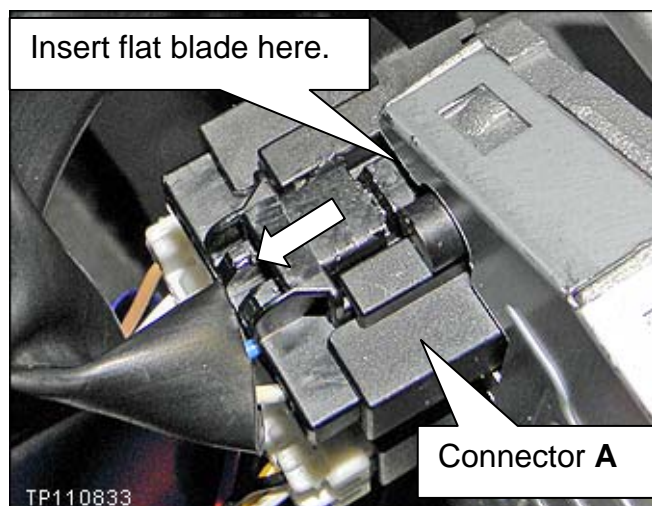

Figure 25
- See Figure 25 for releasing connector **A**.